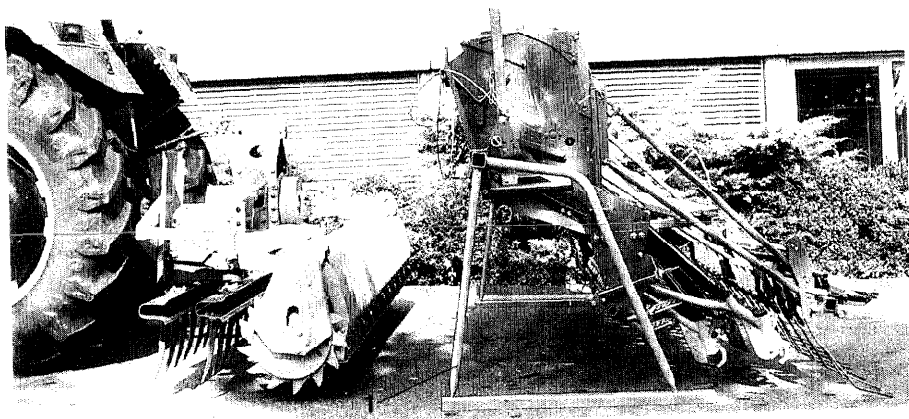

Fig. 12
- Back up tractor with the mounted combination to the Pack Top seed drill standing on its parking support (Fig. 12).
- Now lift complete combination and remove parking support (Fig. 12/1).
- Back up tractor with combination to the Pack Top seed drill standing on its parking supports (see Fig. 12).